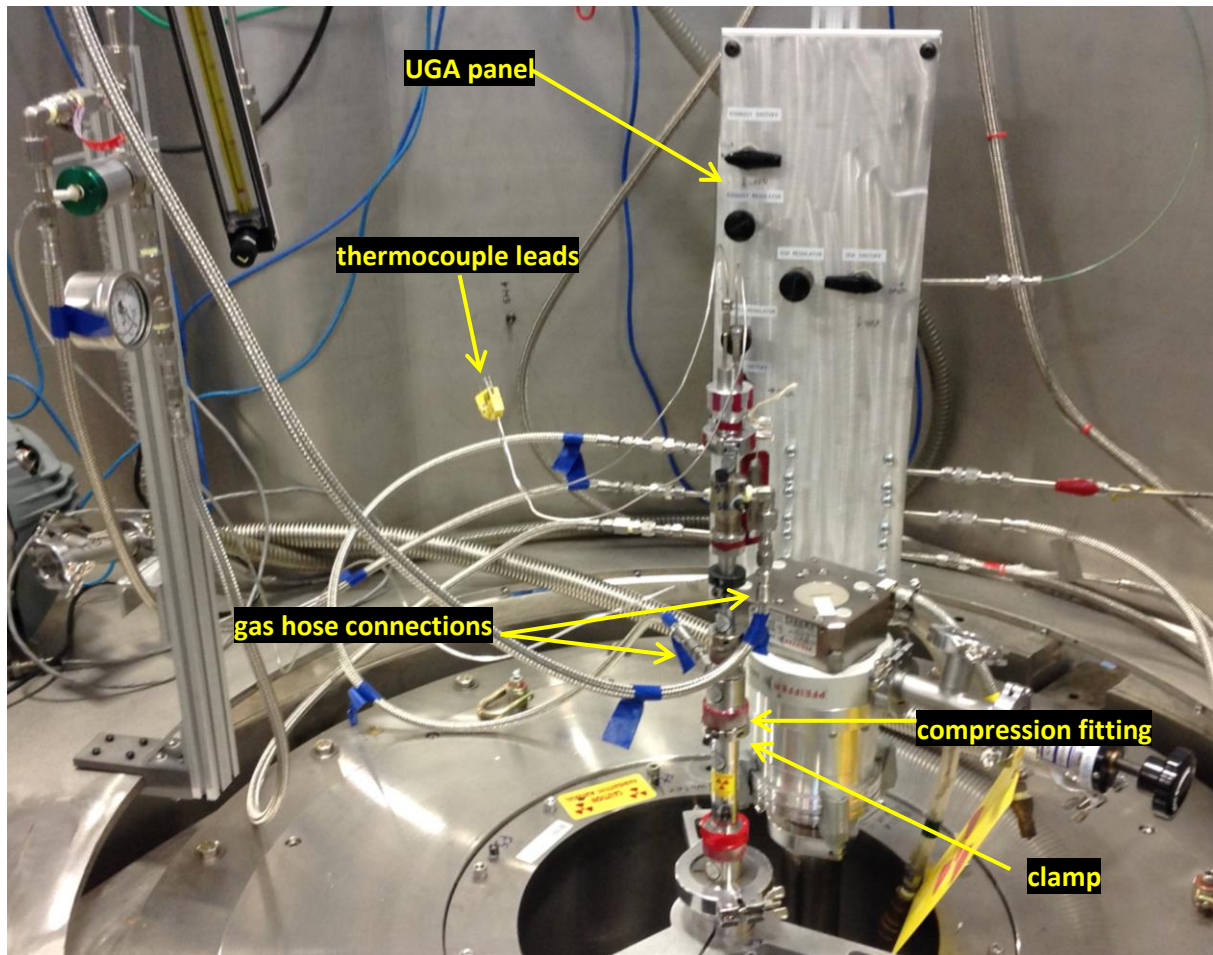

Figure 4. AGES stick connections.
2. Remove the previous sample (Figure 4).